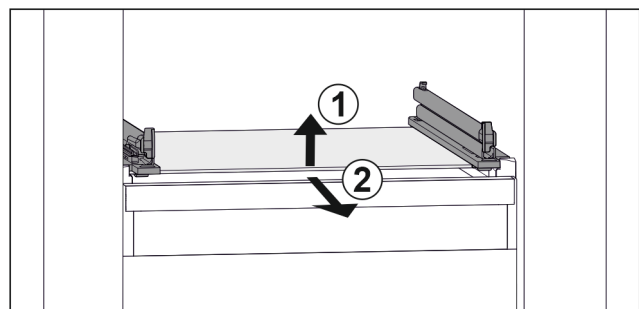

Fig. 128 Example illustration of glass shelf
- ▶ Lift glass shelf at the front. Fig. 128 (1)
- ▶ Remove glass shelf to the front. Fig. 128 (2)